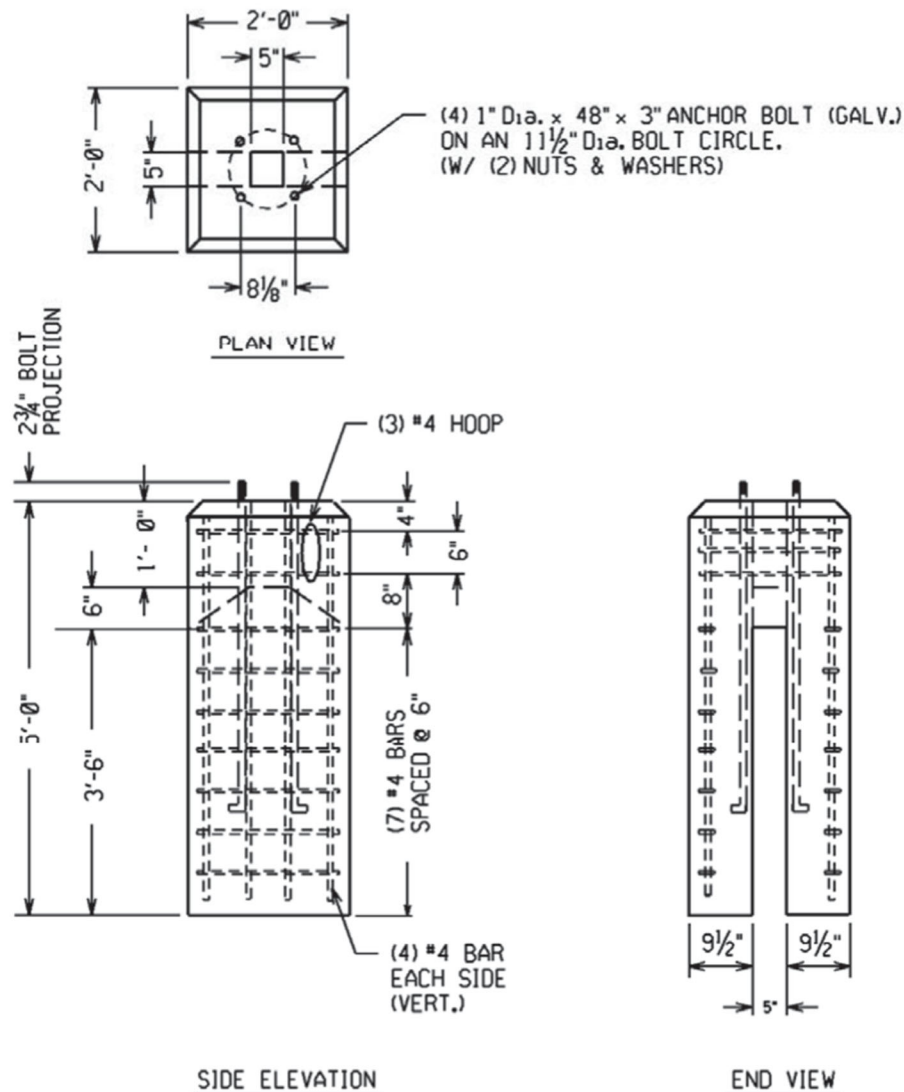

Figure 1 – Precast Concrete Street Lighting Foundation - 11½" Bolt Circle
**2. SPECIFICATION** - All precast concrete foundations with an 11-1/2" bolt circle shall conform to the following specification, including Figure 1.
**Steel Reinforcement** - Steel reinforcement rods shall be #4 bars – ASTM A615 Grade 60, and in accordance with Figure 1.
**Anchor Bolt Detail** - Provide four 1-inch diameter x 48" x 3" "L" shaped galvanized steel anchor bolts, each one with (2) heavy hex head nuts and (2) round washers. All hardware shall conform to ASTM A36, A563, and F844, respectively and shall be hot-dip galvanized per A153. Bolt circle diameter shall be 11-1/2-inch. Each